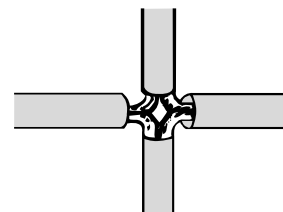

Figure 6.
- Slide a coffee stirrer over each of the exposed twist ties to create the cross shape (see Figure 6).